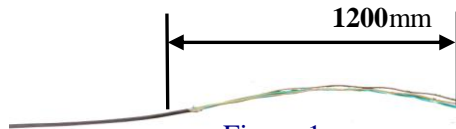

Figure 1
3.1 When branch cable stripping, should put the length of the fiber optic cable skin peeled off as about 1200 mm, Reserve reinforced core in 40 mm length and cut off the unnecessary ones. See figure 1